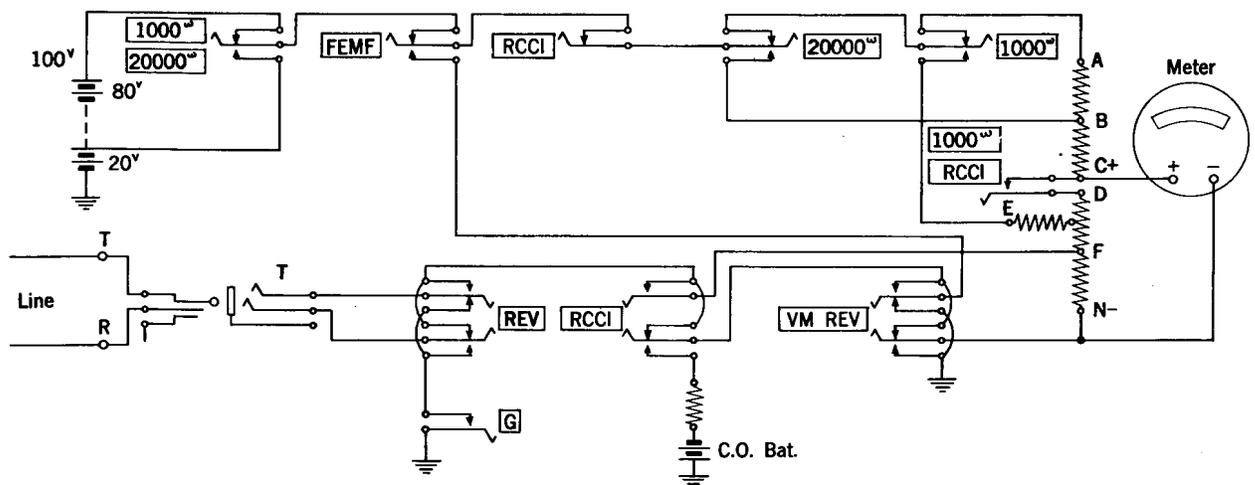

Fig. 8 - Test Connections with Volt-Milliammeter
5.01 To check the 100-volt test battery operate the VM REV key. See Fig. 8. The meter should indicate a voltage between 99 and 101 volts. If only five batteries are in use, add the sixth when required. To check the 20-volt tap operate the 20,000 and the VM REV key. The voltage should not be greater than 21 volts. Restore the 20,000 key and operate the 1000 key. The voltage should not be less than 19 volts after 10 seconds drain. Make adjustments as required with the taps on the battery.
5.07 Connect the circuit under test to the T jack in the cabinet. With no keys operated, 100-volt battery through 100,000 ohms and the meter is connected to the ring side of the test circuit. See Fig. 8. Operate the REV key to connect to the tip side.
From the meter reading determine the resistance as given in Table 1, 2 or 3 at the end of this section. See Fig. 8. For the method of calculating the resistance refer to Section F54.121.
5.11 Measurements with Milliammeter: For resistances of 200 ohms or less use the milliammeter. See Fig. 8. Operate the RCCI key to connect the central office battery through the meter to the ring side of the test circuit. Operate REV key to connect to the tip side. From the meter reading determine the resistance as given in Table 4, 5 or 6 at the end of this section according to the voltage of the office battery. To check the central office battery voltage to determine which column is to be used on the resistance tables, patch the T jack to the BAT G jack when the cabinet is permanently located or to the battery supply jack when the cabinet is not permanently wired to the central office battery. Operate the REV and FEMF keys to read the voltage on the voltmeter. In a 24-volt office, also operate the 1000 key.
5.13 To determine whether a potential exists on a circuit, operate the FEMF key, which connects the test circuit through the meter to ground instead of to the test battery. See Fig. 8. If the foreign potential is negative the voltmeter needle will be deflected to the right. If it is positive, the needle will tend to deflect to the left of zero. In this case, operate the VM REV key to reverse the connections of the voltmeter to obtain a reading to the right of zero. The 20,000 and 1000 keys can also be used with the FEMF key for foreign potentials of less than 30 volts.